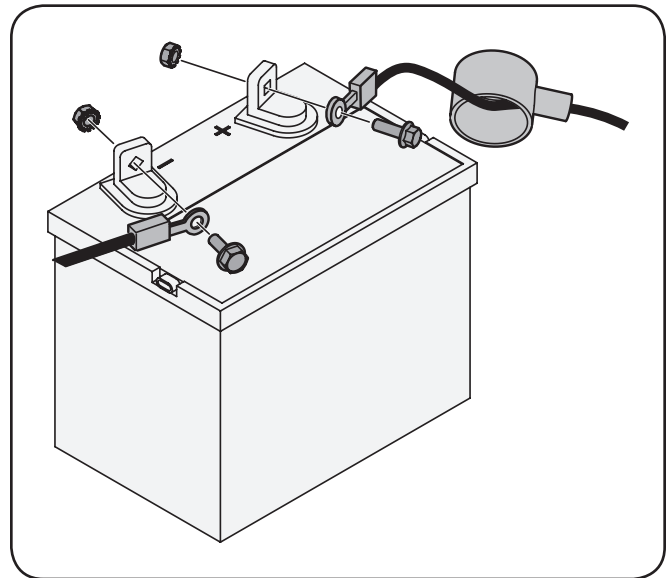

Figure 3-6
1. Remove the plastic cover, if present, from the positive battery terminal and attach the red cable to the positive battery terminal (+) with the bolt and hex nut. See Fig. 3-6.
battery terminal (-) with the bolt and hex nut. See Fig. 3-6.